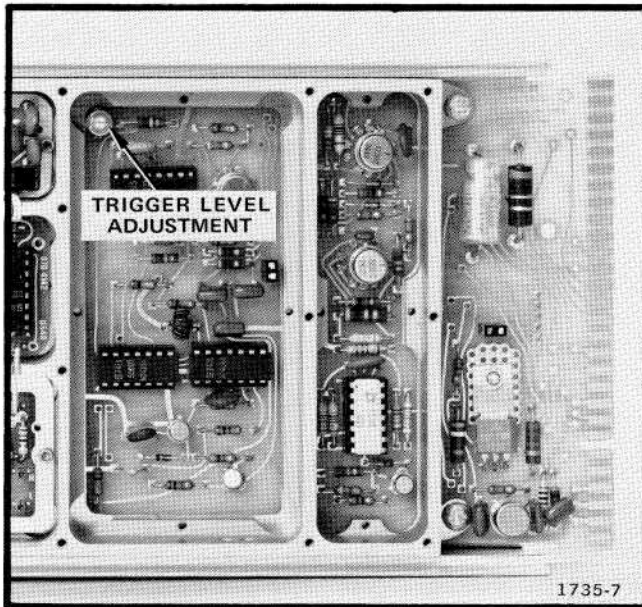
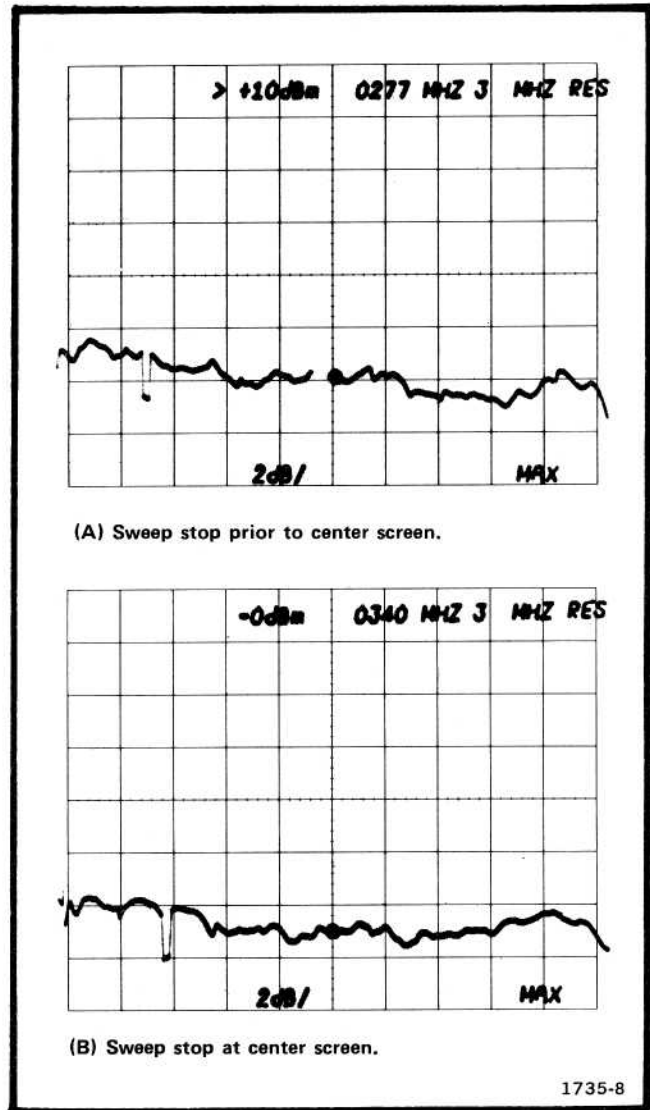

Fig. 4-4. Location of Trigger Level Adjustment.
Fig. 4-5. How the sweep stop should align to the dot position.
- c. Adjust the Sweep Trigger Level R475 (Fig. 4-4) until the sweep stop point is next to the dot (Fig. 4-5).